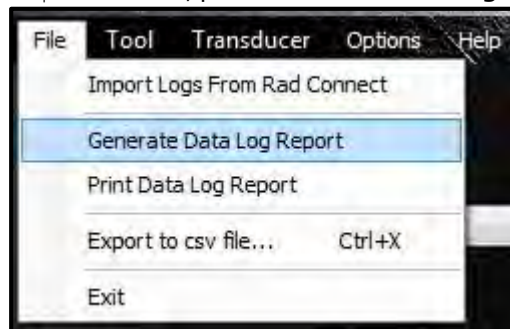

Figure 5.5-1: Generate Report Button
2. In the **"File"** drop down menu, press **"Generate Data Log Report"** (Figure 5.5-1).